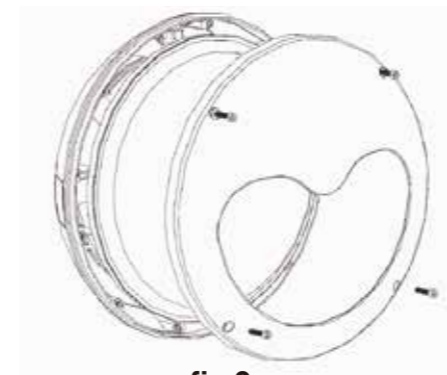

fig 3
7. Fit diffuser and cast front, tighten 4 screws until tight to ensure IP65 rating (fig 3)